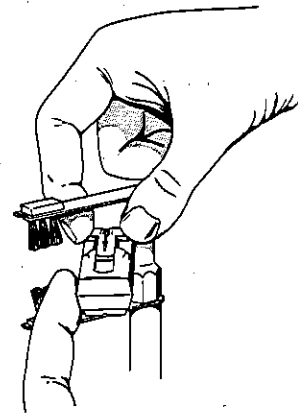

Figure 9. Replacing Upper Stylus.
3. Hold the tone arm against the stylus brush post, *Figures 9 and 10*. Slide worn armature assemblies out of pickup by gripping the top portion of the "T", using the thumb and forefinger. Light pressure in the direction away from the stylus point will slide the armature out of the cartridge slot.